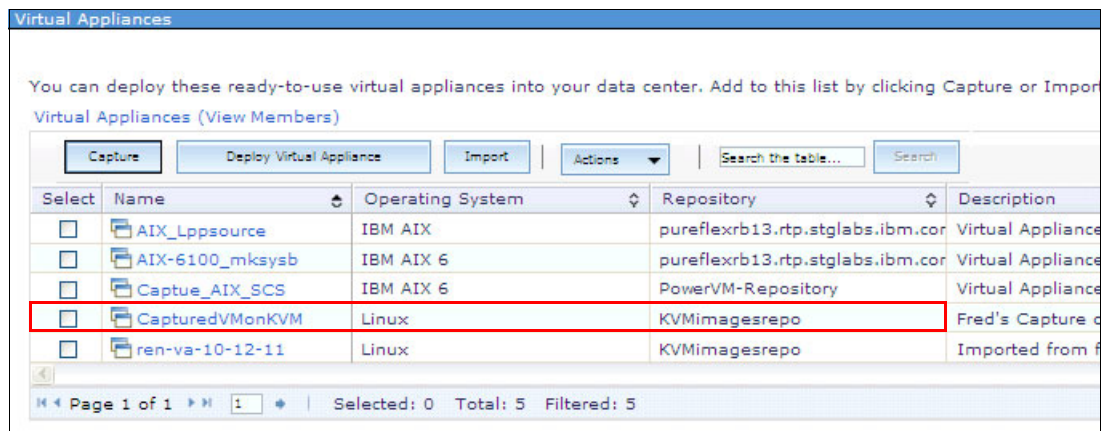

Figure 9-123 Virtual Appliances view
12. When the import process is complete, go back to the **Virtual Appliances** tab as shown in Figure 9-123. Check that the new appliance is available for deployment.